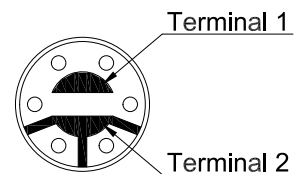

Figure 4. HMC1001A-65 Mechanical Layout
- 4.3.1. Layout and Dimension : See Section 6, Figure 4